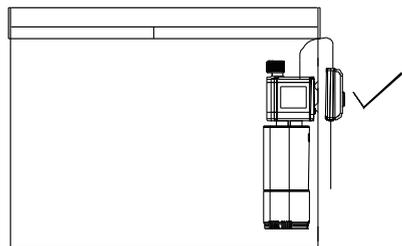

Fig.2
5. To avoid the risk of shorting by water vapor, the Control Box **MUST** be affixed onto the outside of the tank but **NOT** on the top of the tank. (Fig.2)